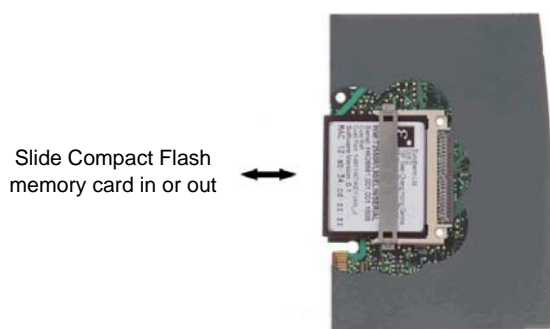

Figure 12.2.1 Replacing the Compact Flash Memory Card
Figure 12.2.1 shows the replacement of the Compact Flash (CF) card fitted to current units. This procedure allows databases, user configurations, IP address and Network name, to be transferred from one module to another, allowing the 'Mean Time to Replace' to be reduced to a minimum.